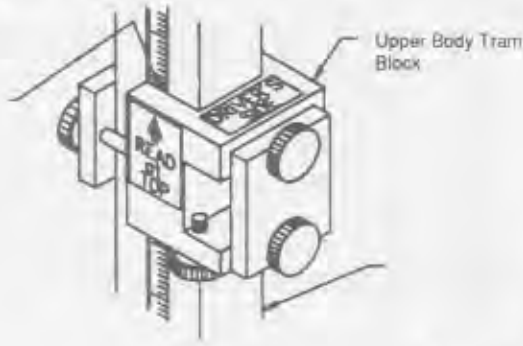

Figure 7
I. The \square symbol found under \triangle symbol indicates height for mounting upper body tram block on vertical leg. For example: $\triangle 460$. Each block is mounted on outside of vertical legs. Be sure to note driver's side (left side) and always read height at top of block on front side of vertical leg. (See Figure 7.)